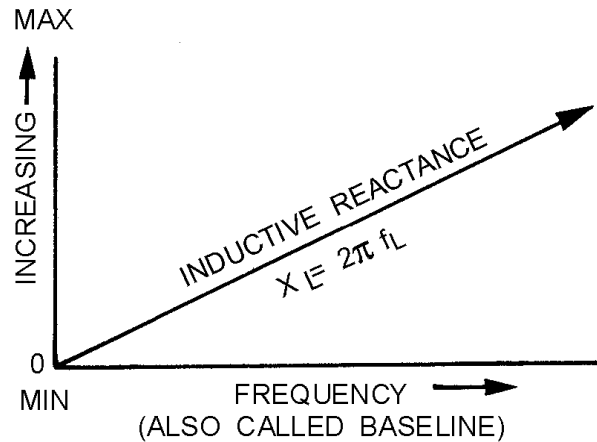
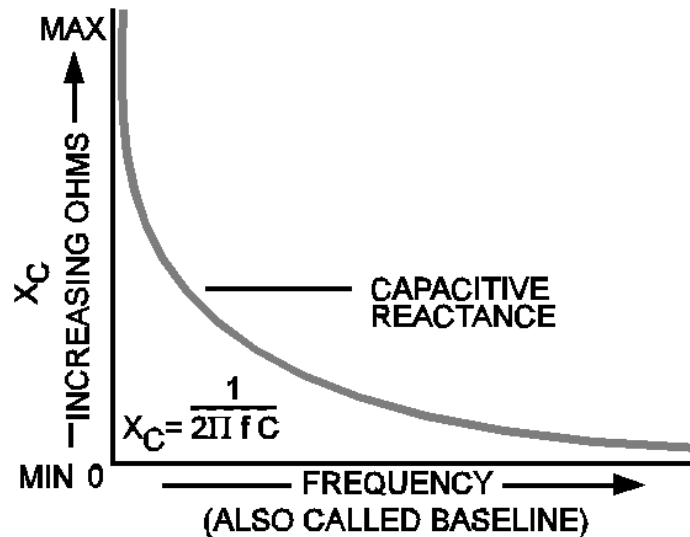
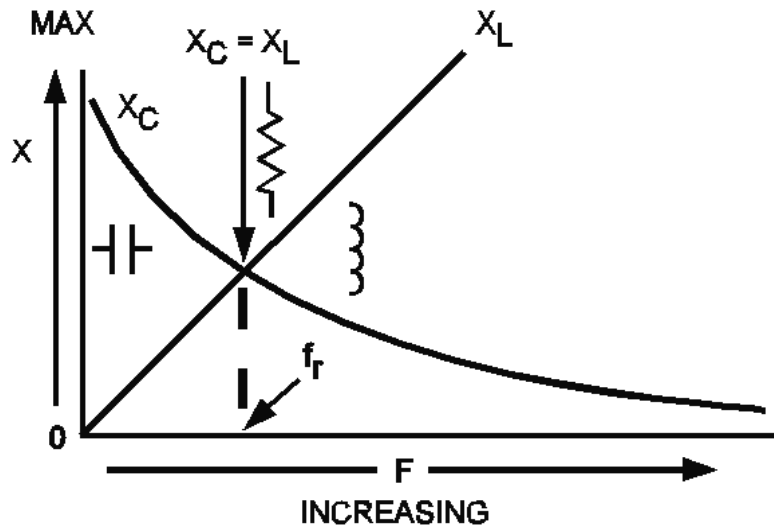

Figure 1-2.—Effect of frequency on inductive reactance.
Figure 1-3.—Effect of frequency on capacitive reactance.
Figure 1-5.—Relationship between  $X_L$  and  $X_C$  as frequency increases.
As shown in the equation, any increase in frequency, or " $f$ ," will cause a corresponding increase of inductive reactance, or " $X_L$ ." Therefore, the INDUCTIVE REACTANCE VARIES DIRECTLY WITH THE FREQUENCY. As you can see, the higher the frequency, the greater the inductive reactance; the lower the frequency, the less the inductive reactance for a given inductor. This relationship is illustrated in figure 1-2. Increasing values of  $X_L$  are plotted in terms of increasing frequency. Starting at the lower left corner with zero frequency, the inductive reactance is zero. As the frequency is increased (reading to the right), the inductive reactance is shown to increase in direct proportion.
As shown in figure 1-3, the effect of capacitance is opposite to that of inductance. Remember, capacitance causes the current to lead the voltage by 90 degrees, while inductance causes the current to lag the voltage by 90 degrees.
A.c. circuits that contain both an inductor and a capacitor have interesting characteristics because of the opposing effects of L and C.  $X_L$  and  $X_C$  may be treated as reactors which are 180 degrees out of phase. As shown in figure 1-2, the vector for  $X_L$  should be plotted above the baseline; vector for  $X_C$ , figure 1-3, should be plotted below the baseline. In a series circuit, the effective reactance, or what is termed the RESULTANT REACTANCE, is the difference between the individual reactances. As an equation, the resultant reactance is:
The universal reactance curves of figures 1-2 and 1-3 are joined in figure 1-5 to show the relative values of  $X_L$  and  $X_C$  at resonance, below resonance, and above resonance.